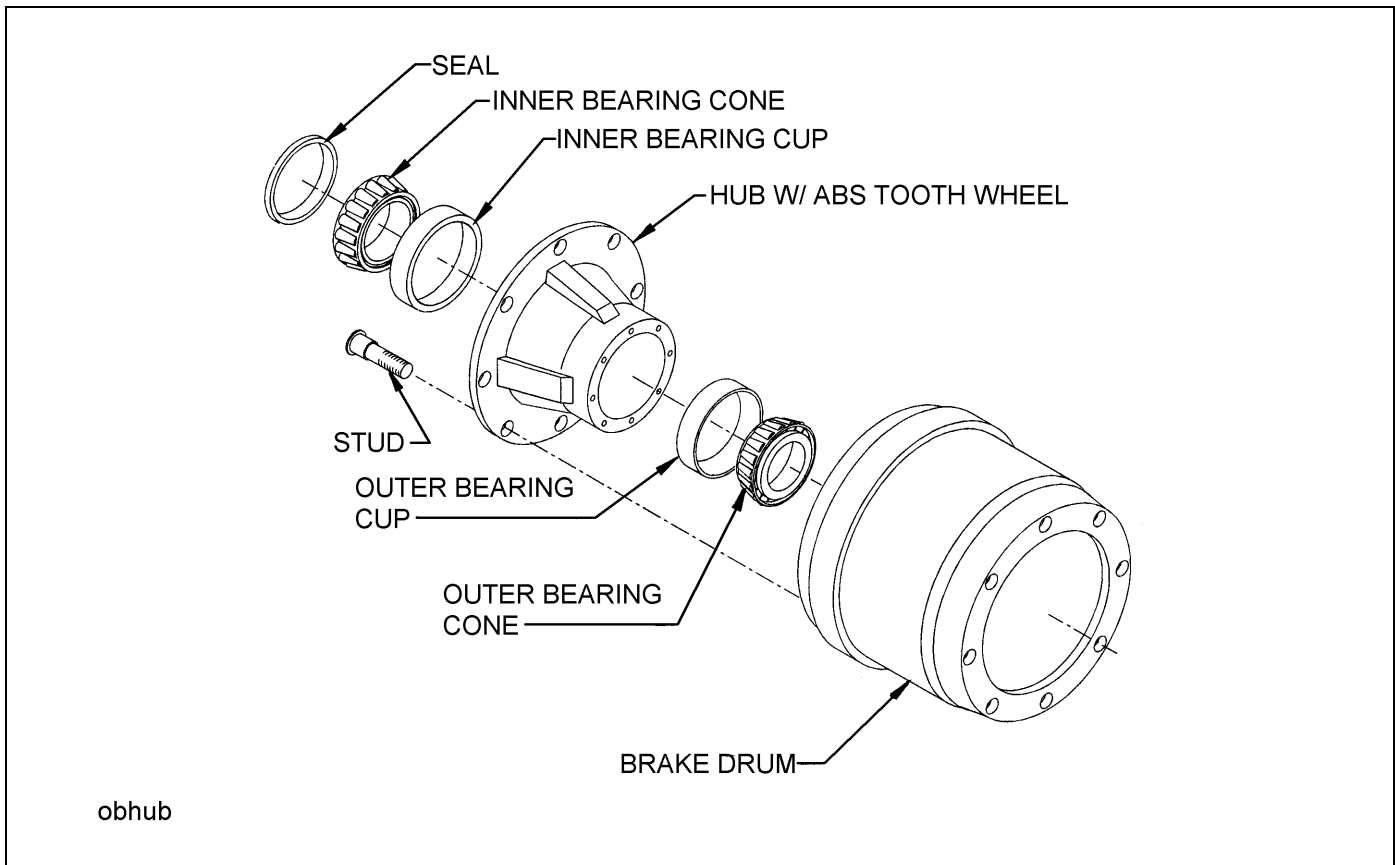

Figure 4-14: Outboard Hub and Drum
4. Replace the hub and drum as follows (**See Figure 4-14.**)
- a. Remove the brake drum (**See Figure 4-14.**) It may be necessary to release the slack adjuster.